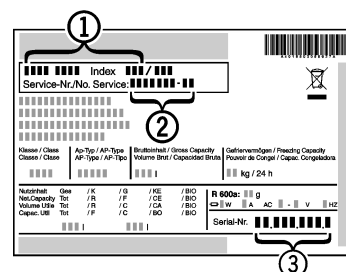

Fig. 6
- Read off the appliance name *Fig. 6 (1)*, service no. *Fig. 6 (2)* and serial no. *Fig. 6 (3)* from the model plate. The model plate can be found on the inside of the appliance on the left.
- Notify our customer service team and give them the error, the appliance name *Fig. 6 (1)*, service no. *Fig. 6 (2)* and serial no. *Fig. 6 (3)*